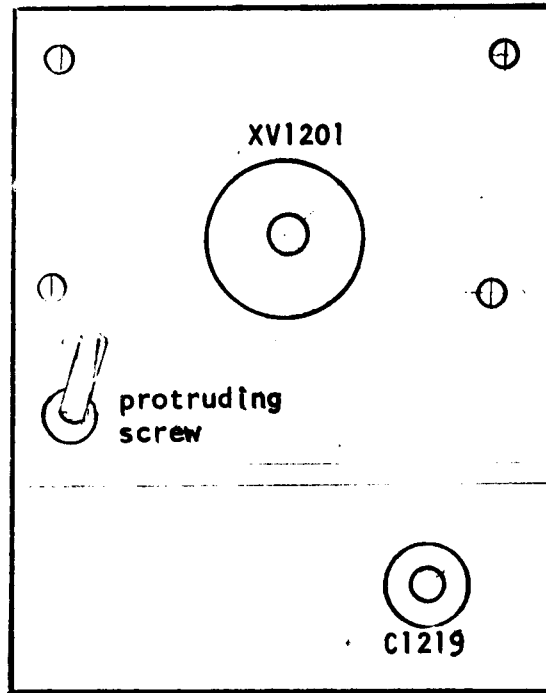

Figure 1
- C. Refer to Figures 1 and 2 and remove screw as indicated on figures. Save lockwasher and discard screw.